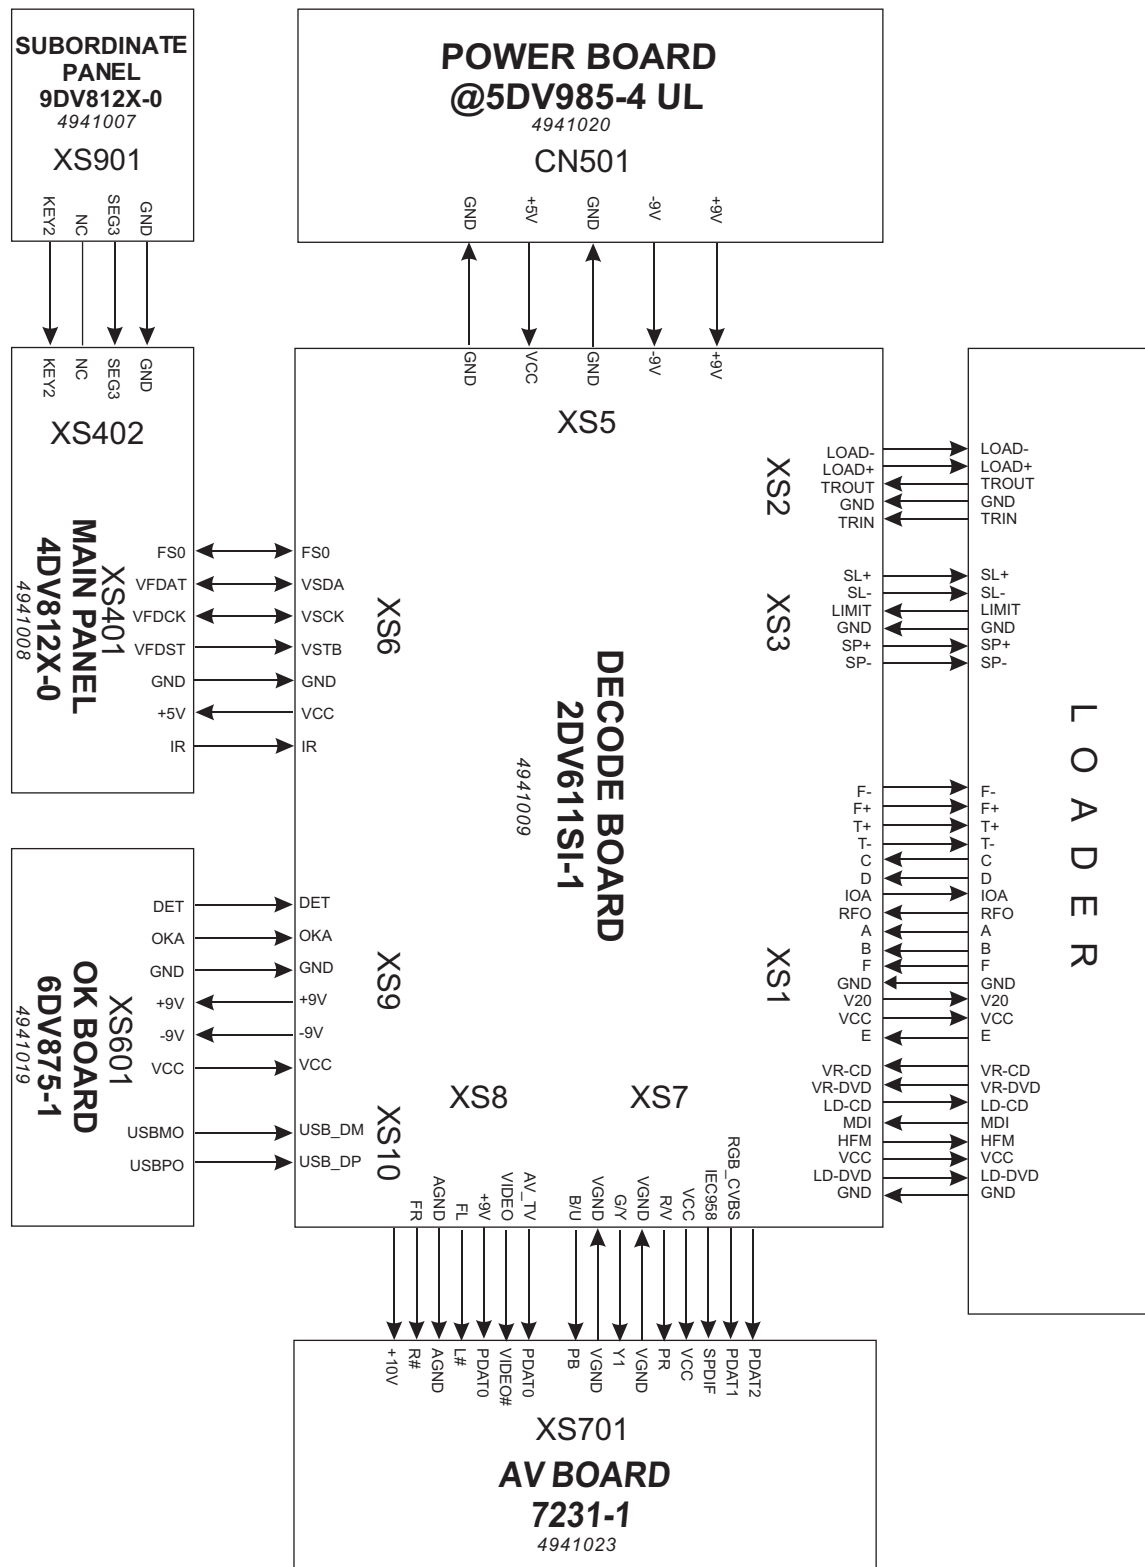

Figure 3.1.1 Diagram for PCB wire of DV812X(RU)
PCB board wire diagram of DV812X(RU) machine is shown in figure 3.1.1.